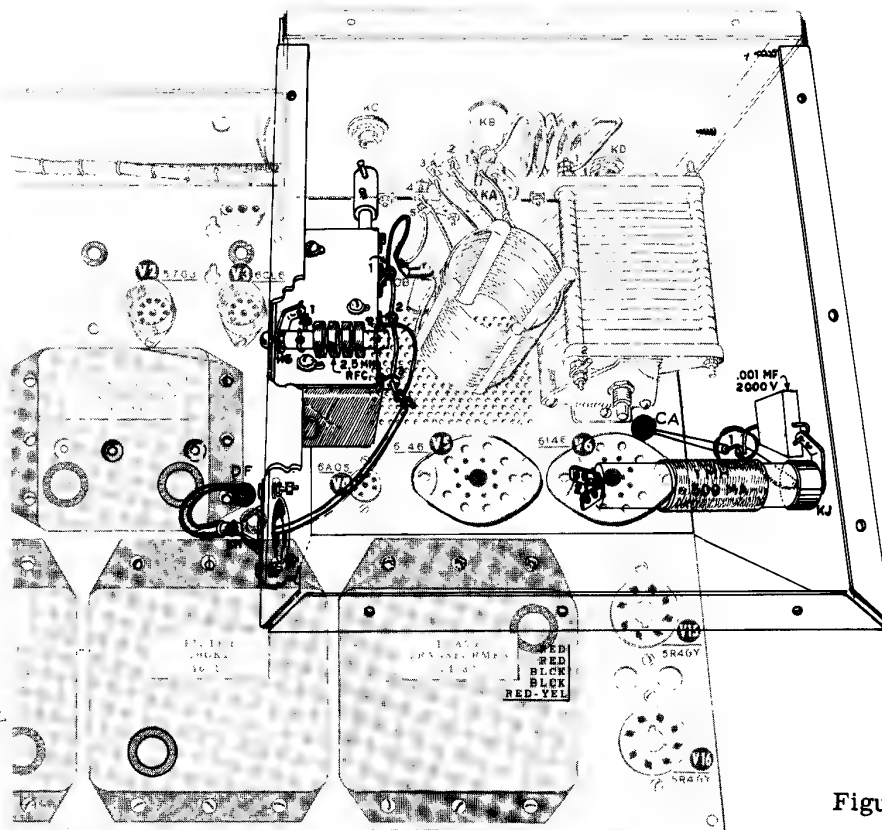

Figure 18
- (✓) Referring to Figure 18, pass the bare wire from standoff insulator CB through lugs 1, 2, and 3 of the loading capacitor. Carefully bend the lugs into position so the wire slides through easily and projects 1/4" beyond lug 3. Now solder lugs 1, 2, and 3. Make sure the wire does not touch the capacitor frame at any point.
- (✓) Referring to Figure 18, insert the long exposed inner conductor of the coaxial cable through the coax shield KH from the outside, sliding the shield braid over the neck. Connect the inner conductor to the projecting end of the #16 wire extending from lug 3 of the loading capacitor (S2). Now solder the shield braid to the neck of the connector shield KH.
- (✓) Connect a .001 mf, 2000 V mica capacitor between RFC lug 1 (NS) and the solder lug (S1). Place the capacitor flat against the shield as shown.
- () Cut a length of #18 hook up wire 8 1/2" long and strip each end for 1/2". Connect one end to RFC lug 1 (S2). Pass the other end through the 5/16" grommet and connect to terminal strip GC-2 (NS) under the chassis. Refer to Figure 18 and Pictorial 15, page 50.